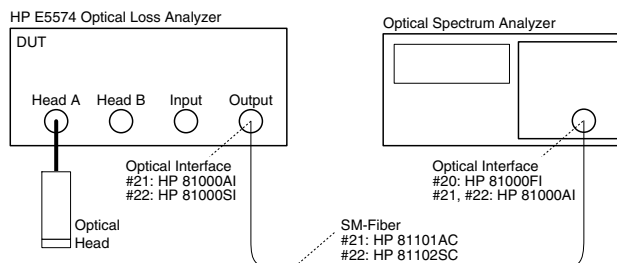

Figure D-1 Center Wavelength Test Setup
- a Connect the equipment as shown in Figure D-1.